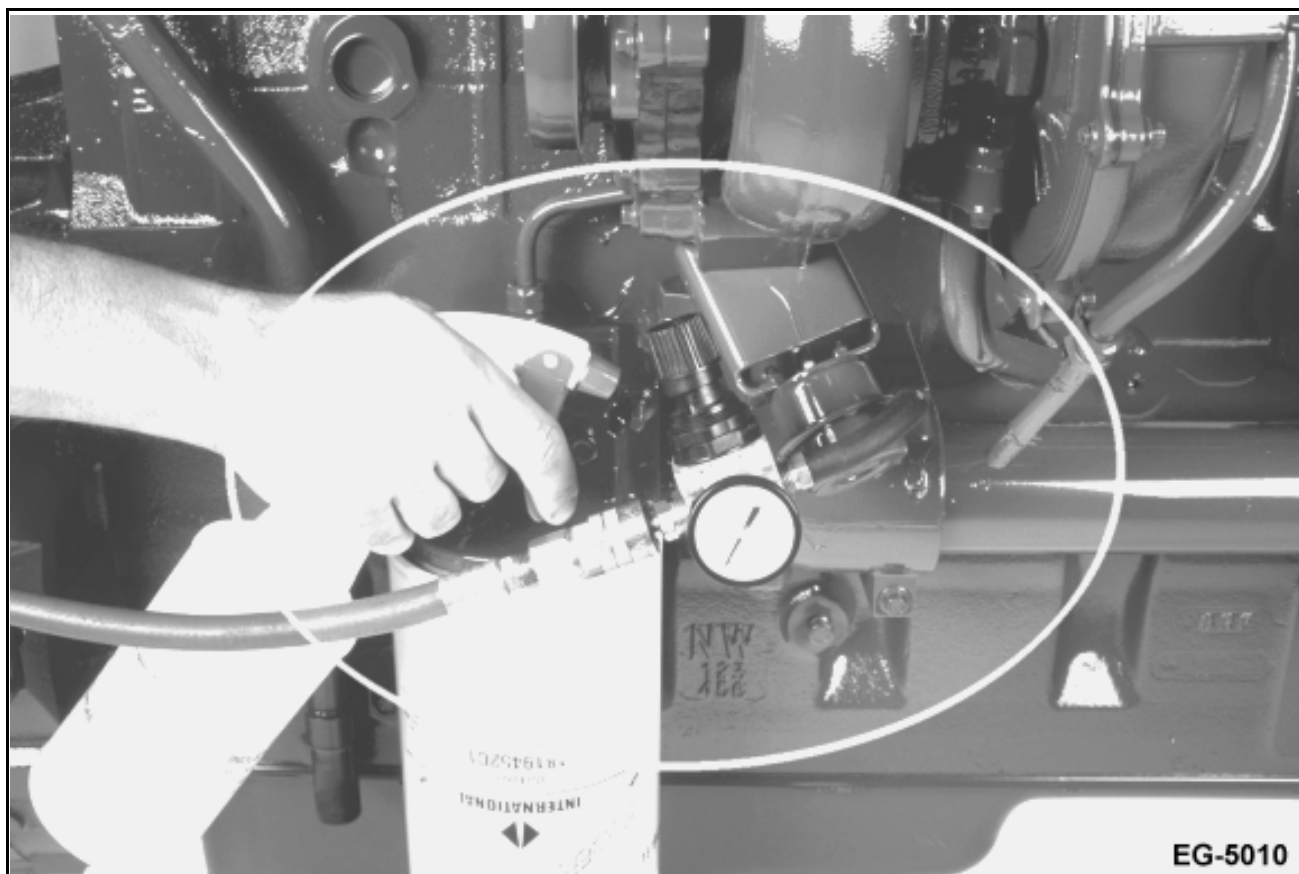

Figure 62 Wastegate Actuator Test
2. Connect an air regulator with a 0-60 psi gauge to the actuator boost line. See Wastegate Actuator Test (See Figure 62, page 122).